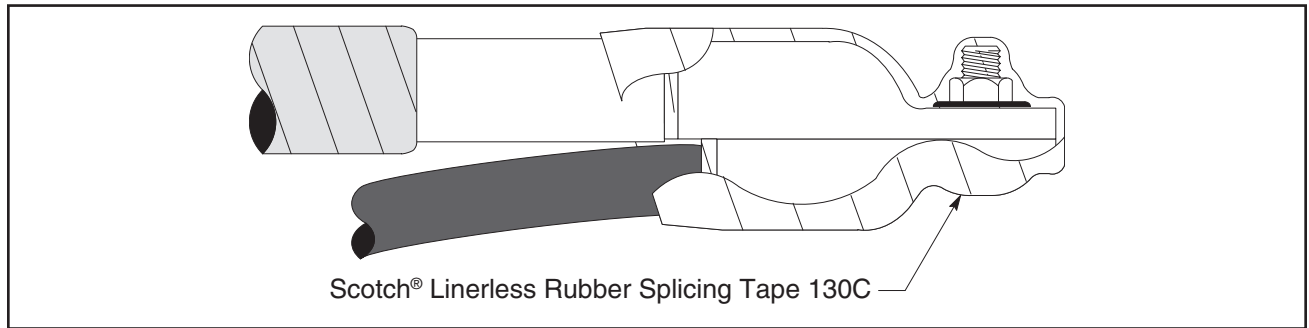

Figure 12
7.4 FOR 8 kV ONLY. Cover the lugs and bolt with four half-lapped layers of Scotch® Linerless Rubber Splicing Tape 130C (Figure 12).